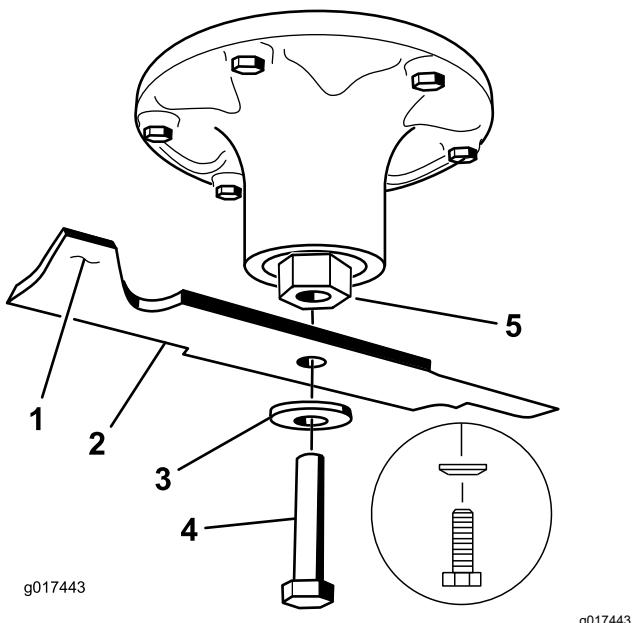

Figure 82
2. Remove the blade bolt, curved washer, and blade from the spindle shaft (Figure 82).
1. Install the blade onto the spindle shaft (Figure 82).
2. Install the curved washer and blade bolt (Figure 82).